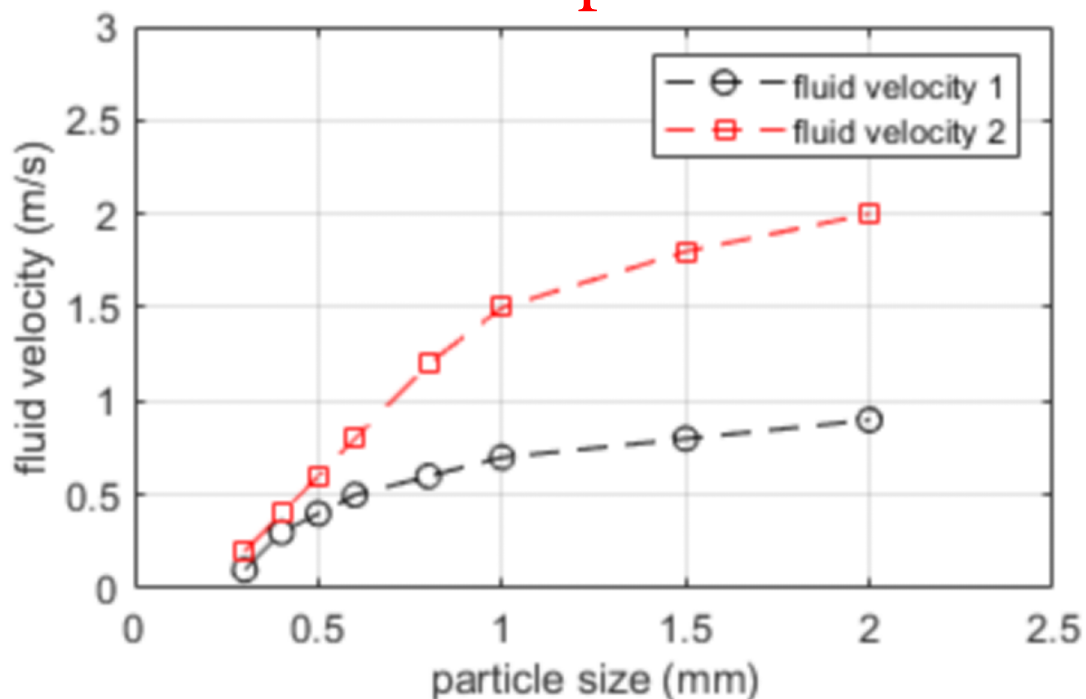

Figure 3: the variation of minimum fluid transportation velocity and cutting size.
- (a) Using Figure 3, estimate the minimum velocity required to transport a 1.0 mm cuttings size, for each fluid? Label the Figure to show how you obtained your estimate.